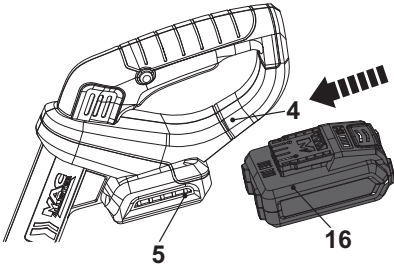

Fig. 4
1. Align the battery pack (16) with the sliding slots of the battery docking port (5) under the rear safeguard (4) and slide the battery pack in to attach it. Ensure it clicks in place (Fig. 4).